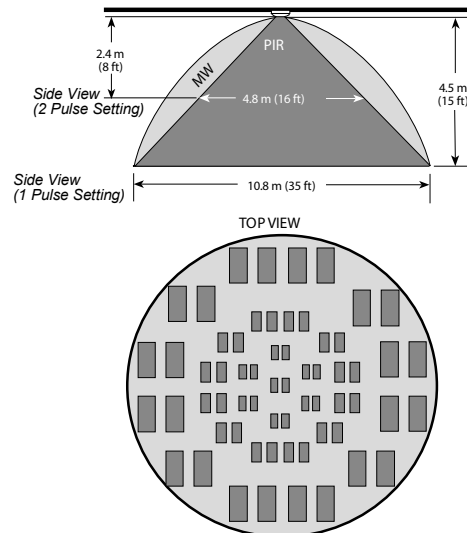

Figure 1. DUO 240 Coverage Pattern
**Detection Pattern:** A virtually conical pattern of maximum 10.8 m (35 ft) diameter, when installed on a 4.5 m (15 ft) ceiling (Fig. 1).